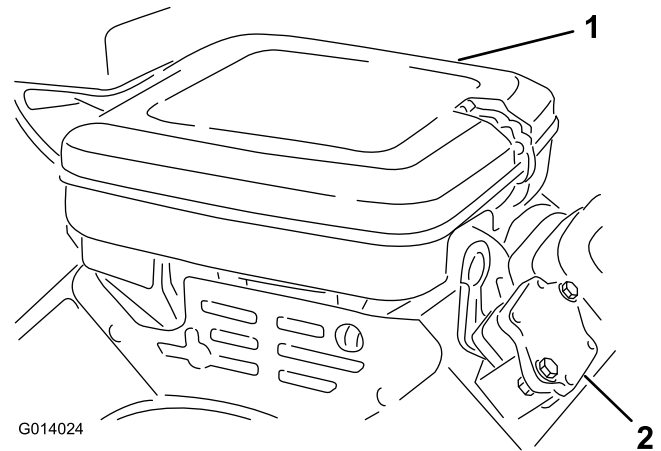

Figure 1
2. Remove the air cleaner cover and the air cleaner from the engine (Figure 1).